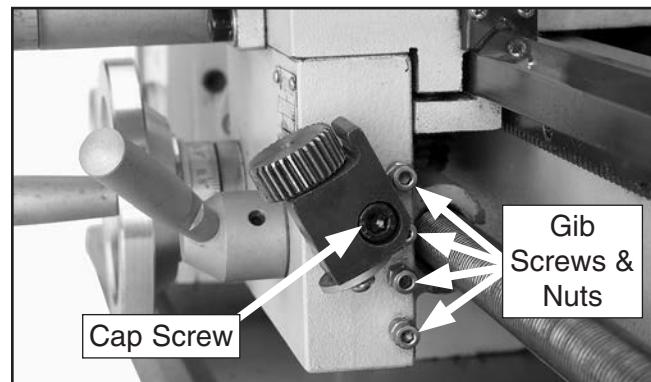

Figure 148. Half nut gib adjustment set screws.
3. Loosen thread dial cap screw, tilt dial out of way, then secure to access gib screws and nuts (see **Figure 148**).